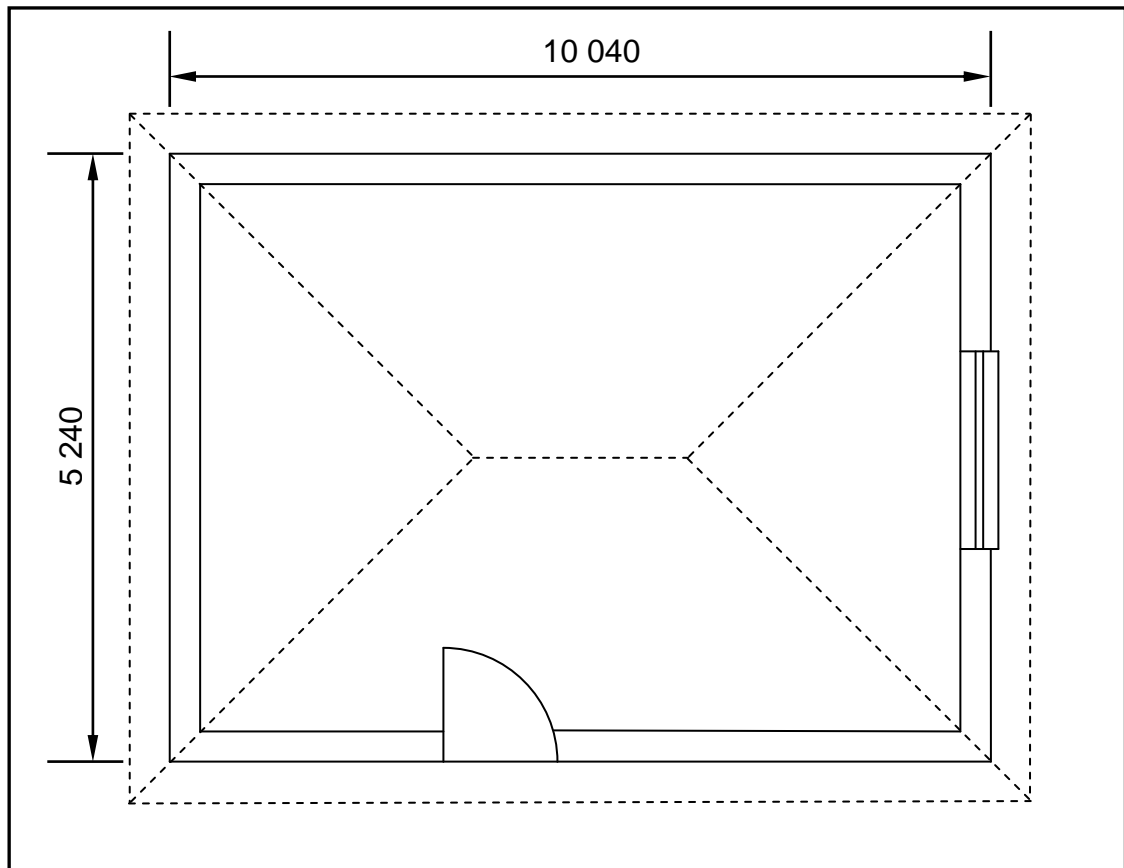

FIGURE 4.6
4.6 FIGURE 4.6 below shows the floor plan of a storeroom.